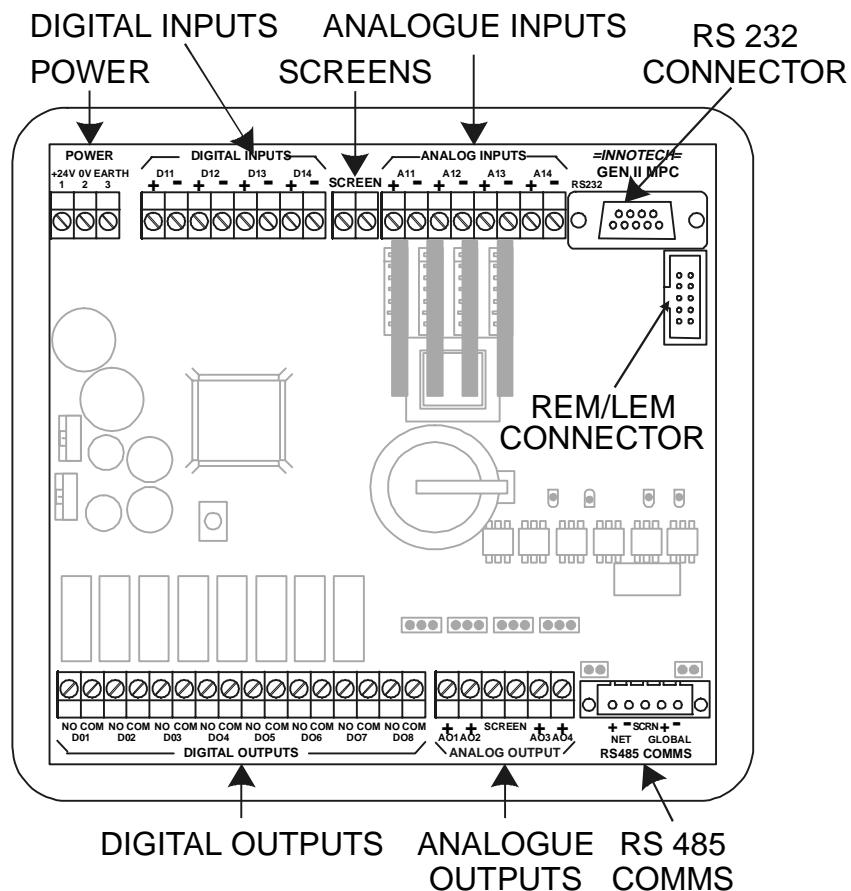

Figure 3-4. Genesis II MPC Input/Output Terminals.
**3-3.2. GENESIS II MID POINTS CONTROLLER.** Figure 3-4 shows the input/output connection groups for the Genesis II Mid Points Controller (MPC). The MPC uses terminal strips located around the controller's perimeter. Terminals are grouped by function as follows:
**Two terminals, located between the Digital and Analogue Input terminal groups (Figure 3-4), are provided for terminating cable screens.**